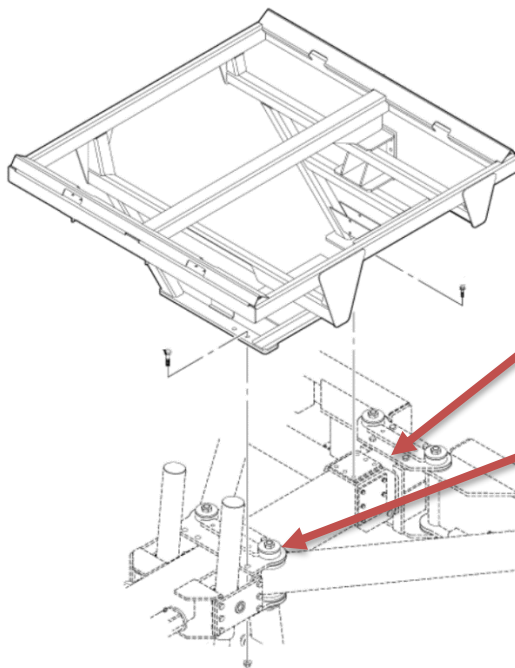

Fig. 9
13. Support the rear side of the hopper unit. **IMPORTANT:** The jack, lifting chains, bucket attachments, loader/skid steer or winch must be capable of lifting and controlling 1000-1500 lbs. Lift the leg approximately 4-5 inches for clearance. Refer to figure 9.